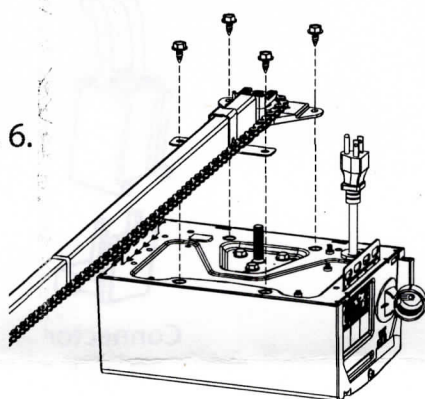

FIG. 6.
- Remove four rail mounting bolts and slide rail assembly off of motor shaft. FIG. 6.